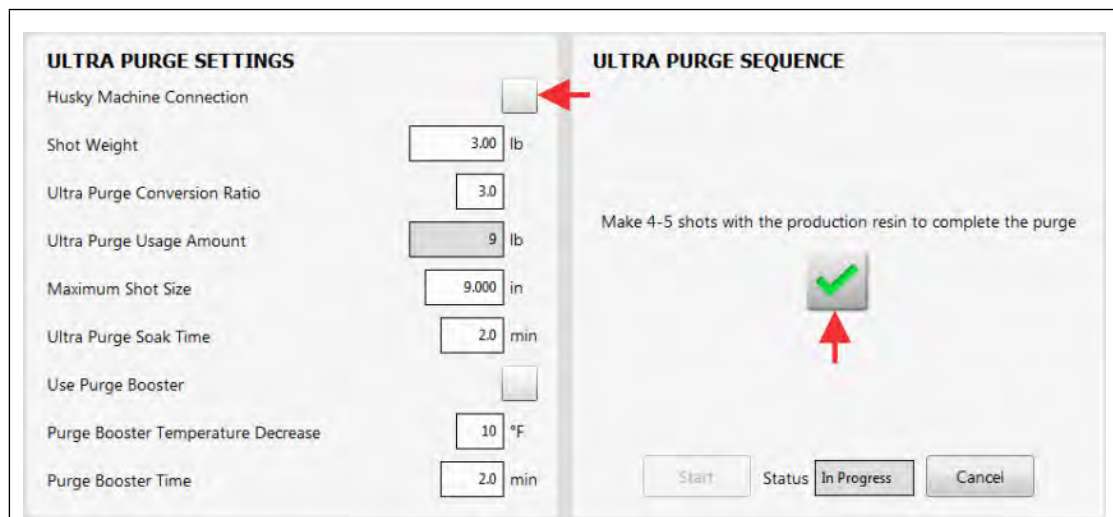

Figure 13-17 Do Four to Five Injection Shots with the New Production Resin
22. Make sure that the Husky Machine Connection checkbox does not have a check mark (not enabled) and then do four to five injection shots with the new production resin (Figure 13-17).